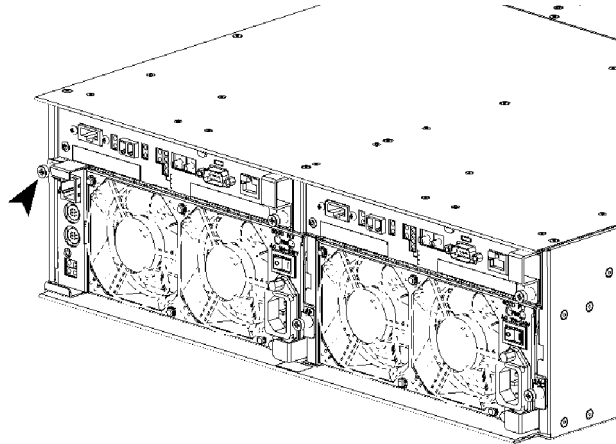

Figure 3-15. Securing the SVP Service Processor.
6. Secure the SVP service processor with the screw previously removed. See Figure 3-15.